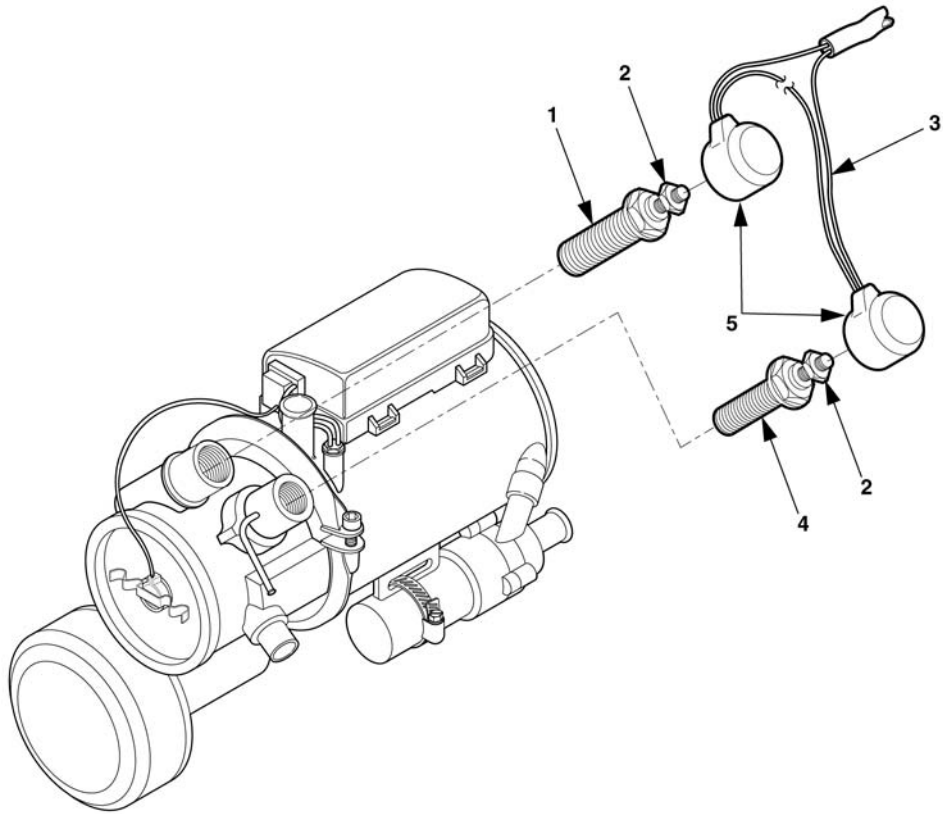

Figure 6-24. Igniter/Glow Plug And Resistor Maintenance.
- b. Remove caps (5, Figure 6-24) from igniter/glow plug (4) and resistor (1).
- c. Loosen hex nuts (2) and disconnect cable (3) from igniter/glow plug (4) and resistor (1).
- d. Check continuity between igniter/glow plug (4) and ground and the resistor (1) and ground.
- e. Reconnect cable (3) and tighten hex nuts (2) on igniter/glow plug (4) and resistor (1).
- f. Replace caps (5) on igniter/glow plug (4) and resistor (1).